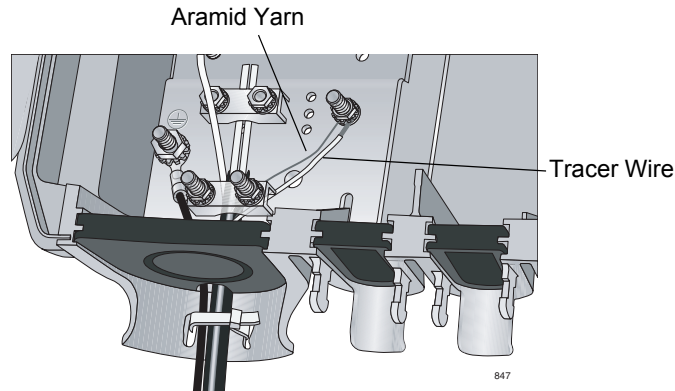

Figure 12. Securing the Tracer Wire and Aramid Yarn
3. Wrap the tracer wire around the base of the post under the washer. Wrap the aramid yard around the post at least four times, just above the tracer wire and under the washer, and tighten the nut, as shown in Figure 12.